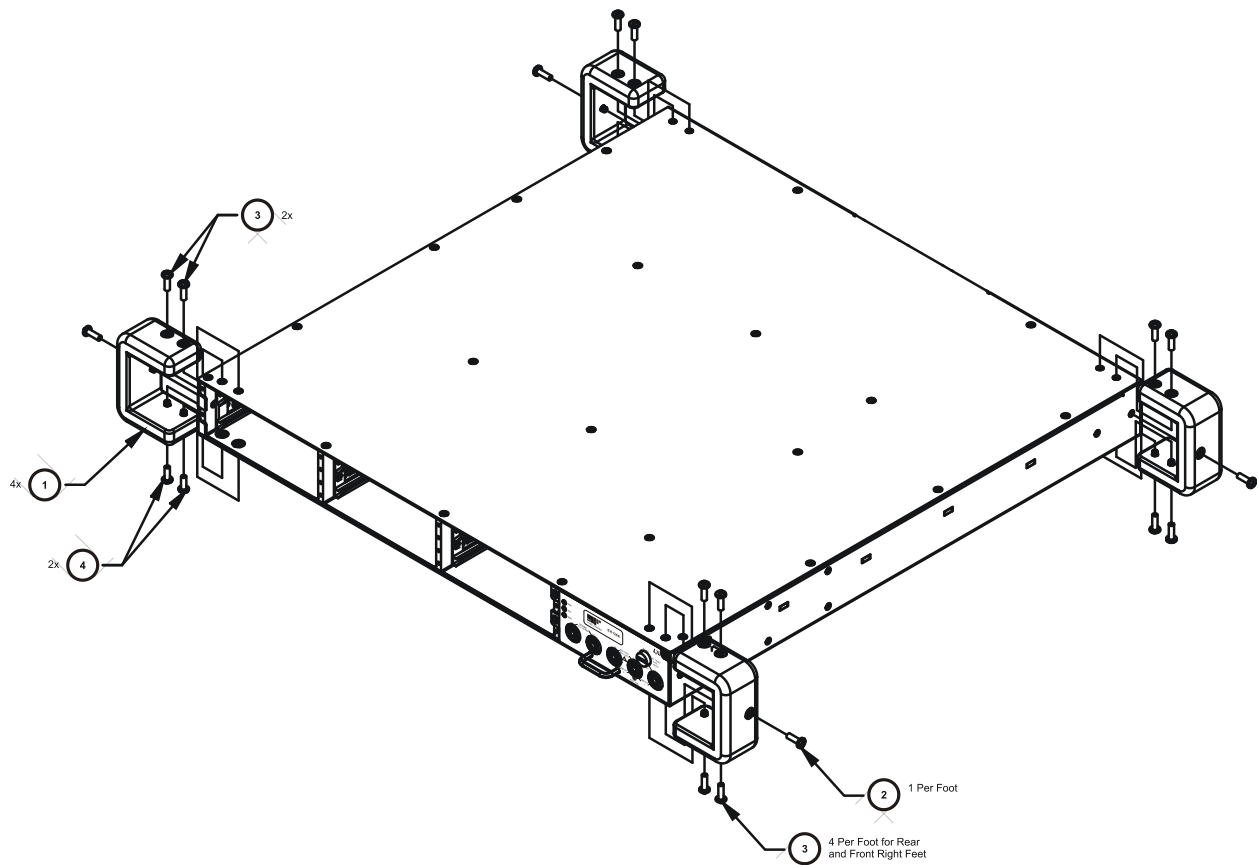

FIGURE 2-8: TABLE TOP FEET INSTALLATION DIAGRAM (EXPLODED FRONT VIEW)
- 2) Using Figure 2-8, locate the installation locations for each rubber foot.
- 3) Using the #2 Phillips screw driver, install the four rubber feet using four (4) 6-32 x 7/16" pan head Phillips screws to secure the top and bottom and one (1) 6-32 x 1/2" pan head Phillips screw to secure side of each foot.